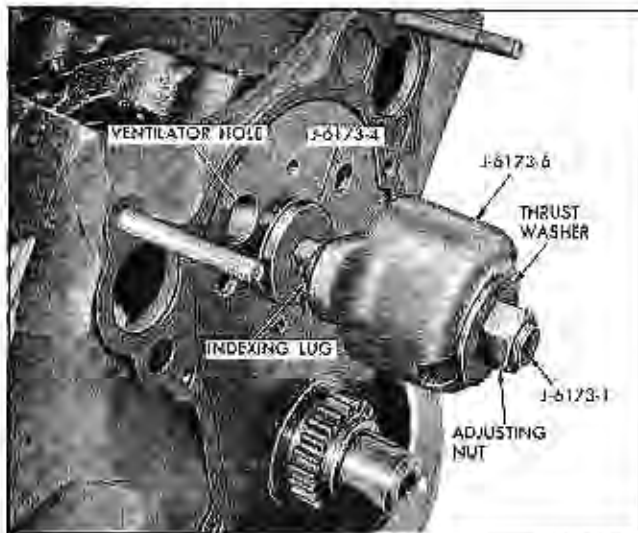

Fig. 6-55 Positioning Index Collar
1. Insert replacer adapter J-6173-4 into front bearing to act as a support for shaft J-6173-1 (Fig. 6-55).
3. Place indexing collar J-6173-6 on threaded end of shaft with open side toward unthreaded end and start thrust washer end nut on shaft (Fig. 6-55).
4. Insert shaft and indexing collar through remover and replacer adapters and position lug on indexing collar in ventilator hole in front of block (Fig. 6-55). This indexes the shaft so that it cannot rotate.
6. Insert shaft with indexing collar, thrust washer, and nut through remover, pilot and replacer adapters and index lug on collar with ventilation hole in front of block (Fig. 6-55).